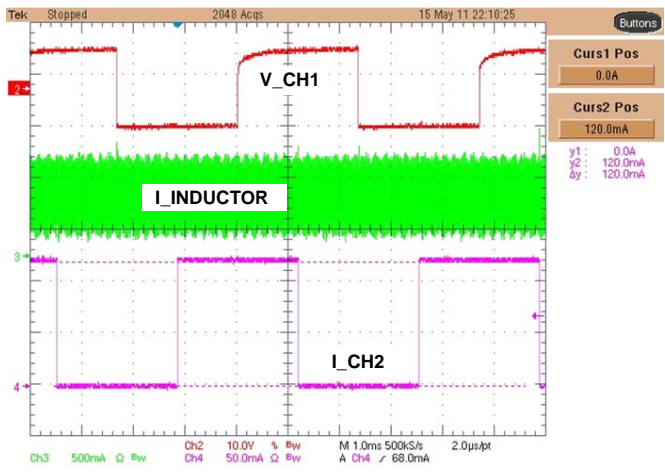
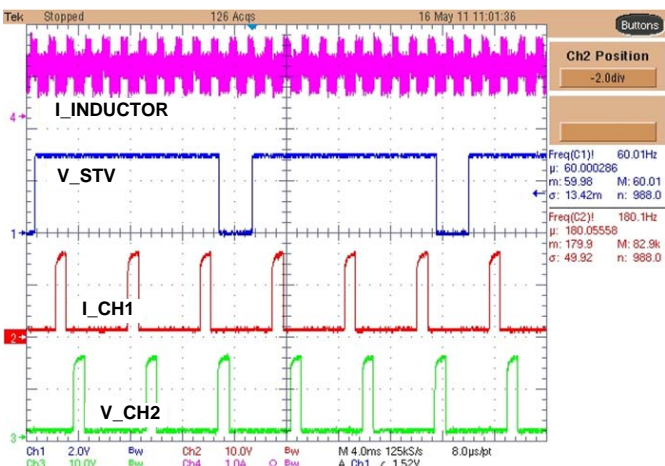

FIGURE 8. PWM DIMMING WITH PHASE SHIFT (V_{IN} : 19V, I_{CH} : 120mA, LEDs: 4P18S, f_{DIM} : 200Hz)
FIGURE 10. VSYNC ENABLED WITH PHASE SHIFT (V_{IN} : 19V, I_{CH} : 120mA, LEDs: 4P18S, 180Hz OUTPUT PHASE AND FREQUENCY LOCKED TO 60Hz STV)
Connect Jumper to the JP_PWM_SET for decoded PWM dimming mode or JP_CPLL for VSYNC mode. Set the switch SW_EN_PS to be ON(H) state. Figure 8 shows phase shifted channel output. Figure 10 shows the channel output waveforms in the phase shifted VSYNC mode.